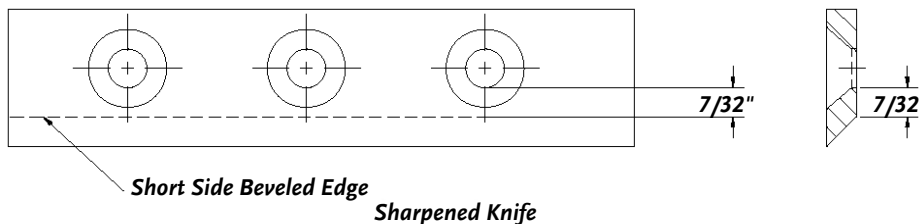

Figure 13
- Once this measurement is below 7/32" (see **Figure 13**), or if you are unable to remove dents or gouges with these guidelines, replace the Knife.